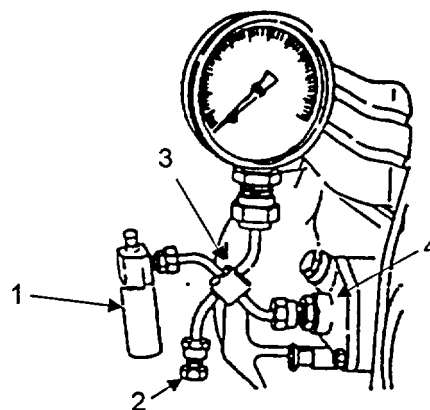

Figure 4-5. Injector Test Setup
- b. Connect testing device 60462800 (Figure 4-5, Item 3) to injector pump (4) and injector (1). Ensure side connection (2) is tightly capped.